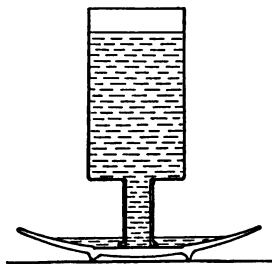

FIG. 10
65. Fill a small-mouthed bottle with water. Cover this with a deep saucer, inverted. Holding the saucer in place, invert the whole so that the saucer shall rest upon a table and the bottle be inverted upon it (Fig. 10). Fully state what occurs with reference to the water. Account for it.